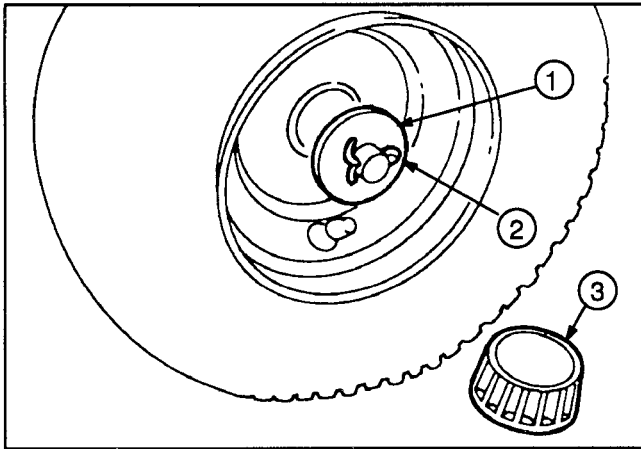

Figure 1
2. Mount the flat washer onto the axle, insert the cotter pin and open the pin ends with pliers (Fig. 1).